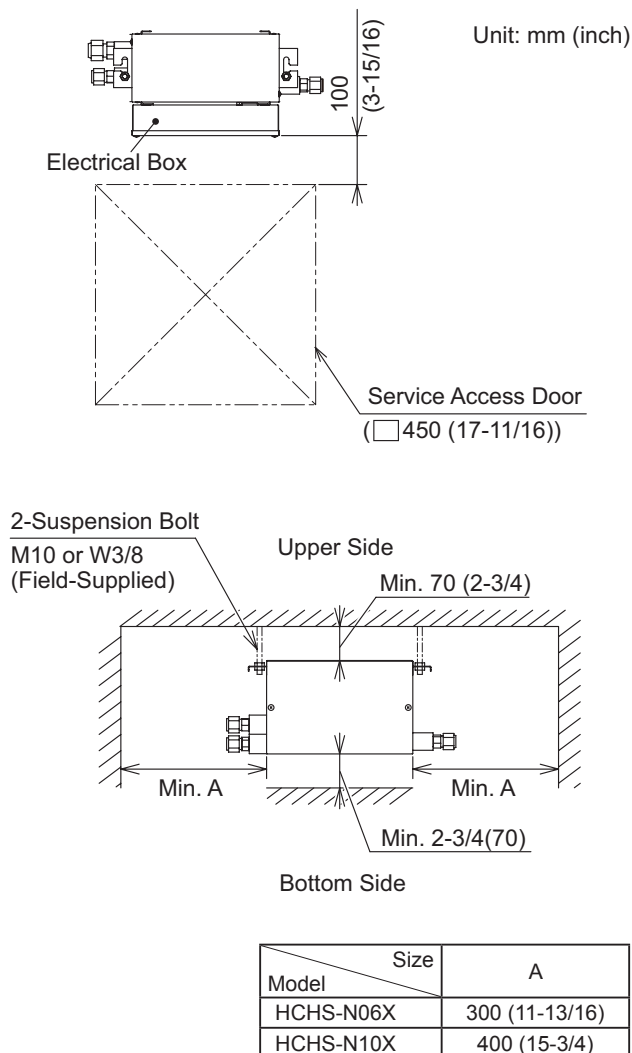

Figure 4.1 Service Space
- Install the Switch-Box with a proper clearance around it for maintenance working space, as shown in Figure 4.1 below.